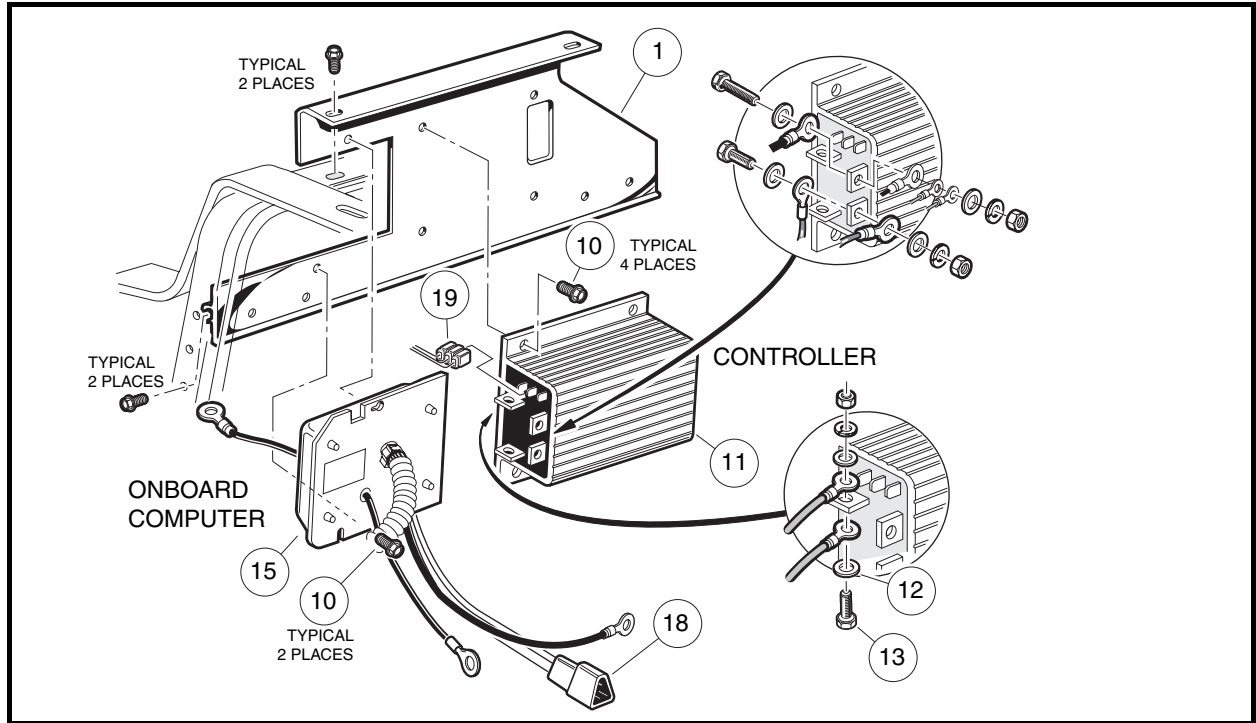
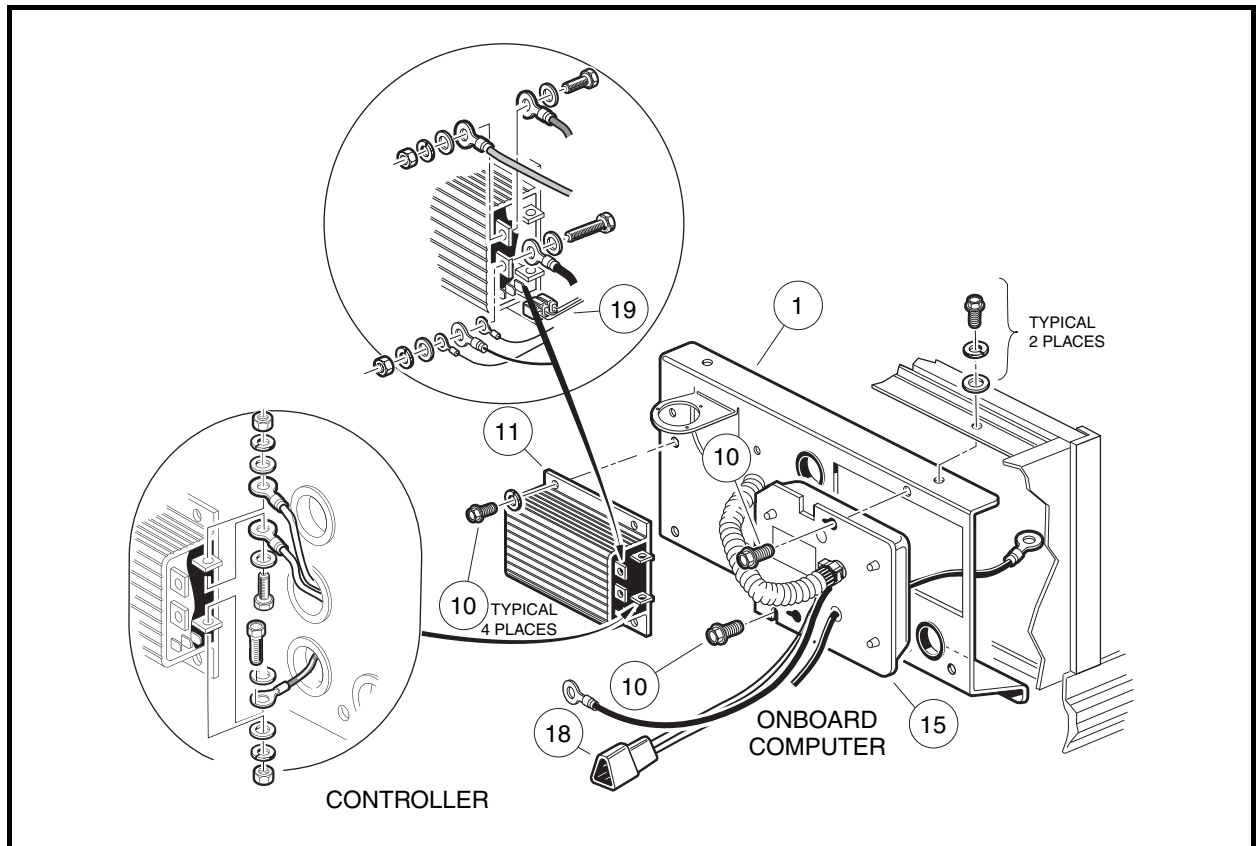

Figure 12-11 Controller and Onboard Computer – Turf 1 and Carryall 1 Vehicles
Figure 12-12 Controller and Onboard Computer – Turf 2, Carryall 2 and 6, Villager 6 and 8, and TransPorter Vehicles
5. Disconnect 6 and 10-gauge black wires from B- terminal of the controller (11) (**Figure 12-11, Page 12-12 or Figure 12-12, Page 12-12**).
6. Disconnect the three-pin connector (18) at the OBC (15) (**Figure 12-11, Page 12-12 or Figure 12-12, Page 12-12**).
7. Loosen, but do not remove, two 1/4 thread-rolling screws (10) holding OBC to the component mounting plate (1) (**Figure 12-11, Page 12-12 or Figure 12-12, Page 12-12**).
1. Install the OBC in reverse order of removal. Tighten 1/4 thread-rolling screws (10) to 50 in-lb (5.6 N·m) (**Figure 12-11, Page 12-12 or Figure 12-12, Page 12-12**). Tighten the nut securing the 10-gauge black wire to the receptacle fuse link to 23 in-lb (2.6 N·m).
2. Remove all 6-gauge wires connected to the controller (11) (**Figure 12-11, Page 12-12 or Figure 12-12, Page 12-12**).
3. Unplug the three 18-gauge wires (19) plugged into the controller.
4. Remove the four 1/4 thread-rolling screws (10) holding the controller to the mounting plate (1).
1. Install in reverse order of disassembly. Tighten 1/4 thread-rolling screws (10) holding controller to mounting plate to 50 in-lb (5.6 N·m) (**Figure 12-11, Page 12-12 or Figure 12-12, Page 12-12**). Connect wires to terminals and tighten to 120 in-lb (13.6 N·m).